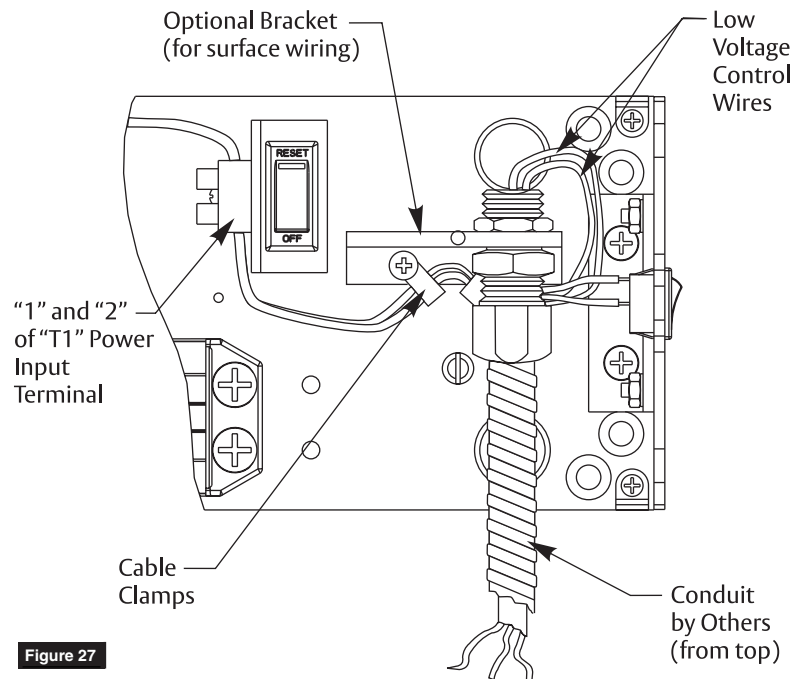

Figure 27
Surface Wiring (Figure 27)
3. After installing operator, attach low voltage wiring as illustrated. (Figure 27)